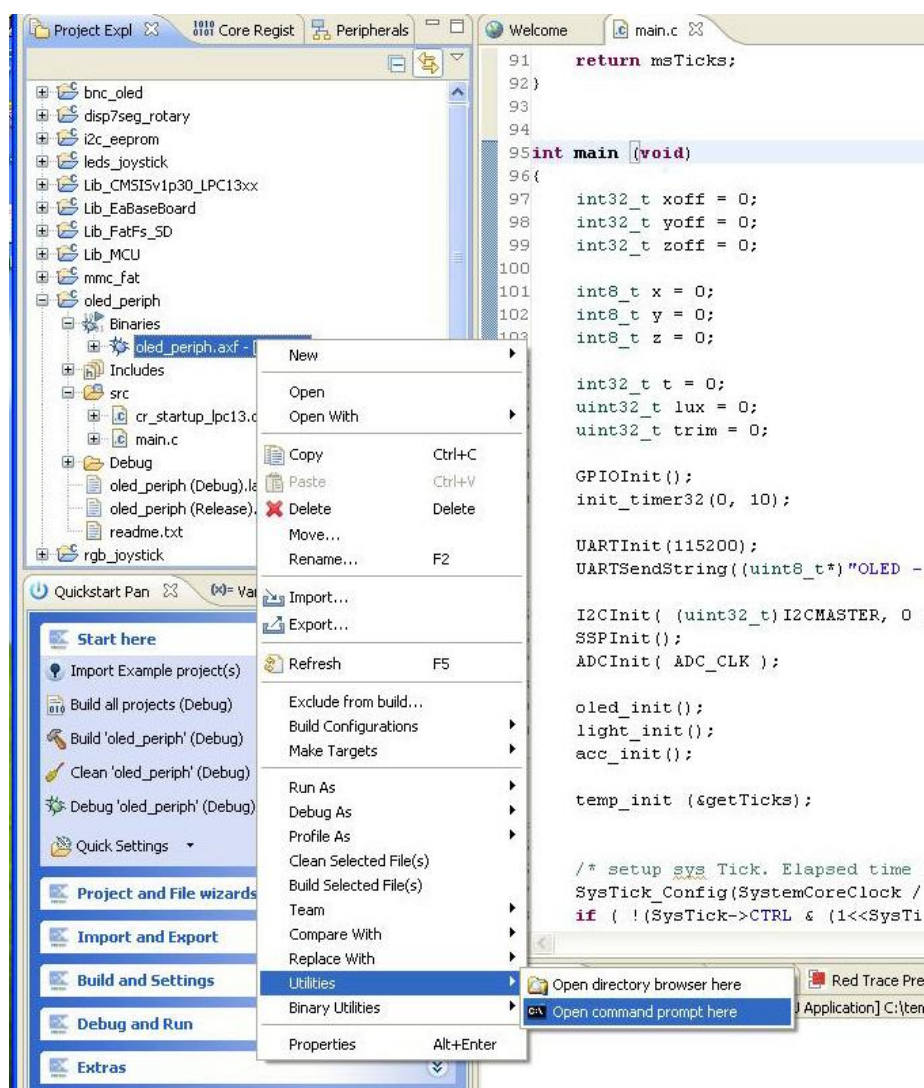

Figure 17 – LPCXpresso IDE Open Command Prompt
3. Open a command prompt in the directory containing the axf file. This can be done from the Utilities menu, see Figure 17.